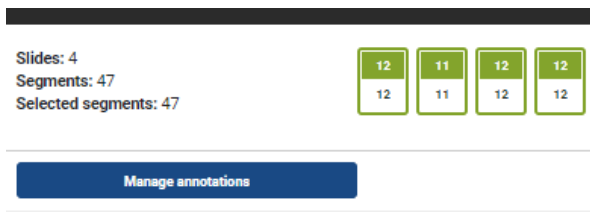

Figure 20: Manage Annotations window
1. Click the **Manage Annotations** button in the Scans pane (see Figure 20).